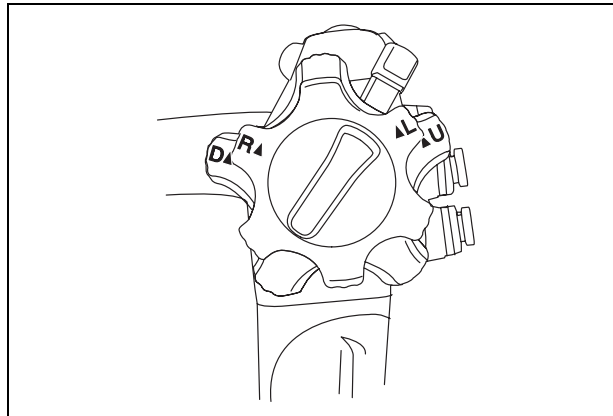

Figure 3.6
3. Turn the UP/DOWN and RIGHT/LEFT angulation control knobs slowly to their respective neutral positions as shown in Figure 3.6. Confirm that the bending section returns smoothly to an approximately straight condition.